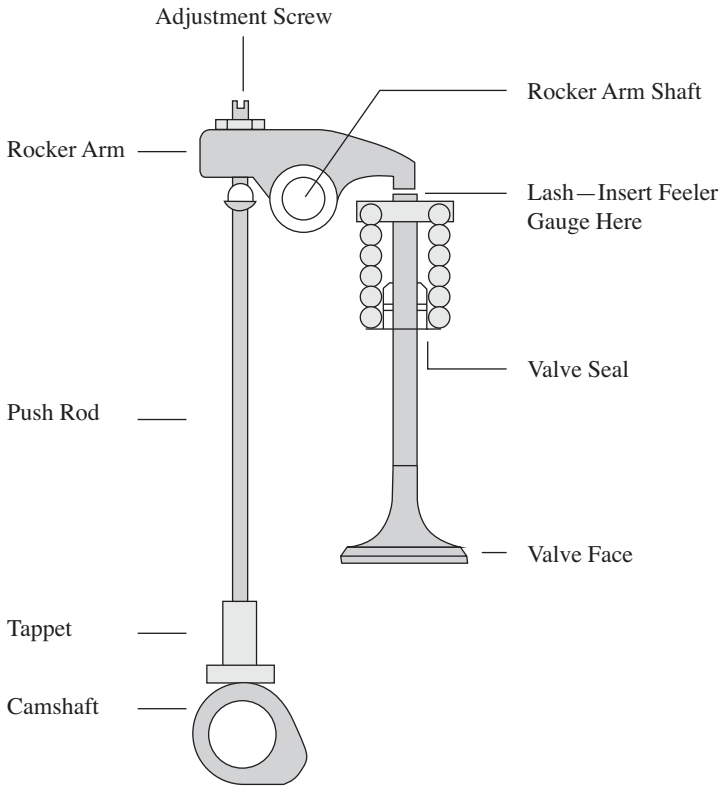

FIG. 7-5 Lash for shaft-mounted rocker arms is measured at the interface between the rocker and valve-stem tip.
3. At TDC (top dead center, or the upper limit of piston travel), both valves will be closed. Late-model Briggs & Stratton engines are an exception. Because of the automatic compression release, the piston must be positioned 1/4 in. past TDC. Make the adjustment with a flat-bladed feeler gauge as illustrated in Figs. 7-5 and 7-6. The work goes easier if the adjustment is bracketed. For example, a 0.004-in. blade will easily slip through a gap of 0.005-in. A 0.006- or 0.007-in. blade will exhibit perceptible drag.